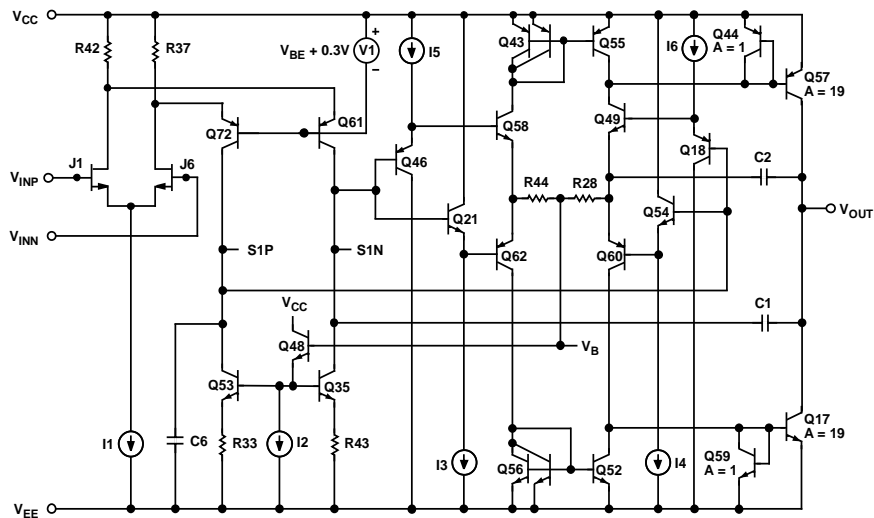

Figure 36. Simplified Schematic
The HT8823 is fabricated on the Analog Devices, Inc. proprietary complementary bipolar (CB) process that enables the construction of PNP and NPN transistors with similar f_T 's in the 600 MHz to 800 MHz region. In addition, the process also features N-Channel JFETs that are used in the input stage of the HT8823. These process features allow the construction of high frequency, low distortion op amps with picoamp input currents. This design uses a differential output input stage to maximize bandwidth and headroom (see Figure 36). The smaller signal swings required on the S1P/S1N outputs reduce the effect of the nonlinear currents due to junction capacitances and improve the distortion performance. With this design, harmonic distortion of better than -91 dB @ 20 kHz into 600Ω with $V_{OUT} = 4$ V p-p on a single 5 V supply is achieved. The complementary common emitter design of the output stage provides excellent load drive without the need for emitter followers, thereby improving the output range of the device considerably with respect to conventional op amps. The HT8823 can drive 20 mA with the outputs within 0.6 V of the supply rails. The HT8823 also offers outstanding precision for a high speed op amp. Input offset voltages of 1 mV maximum and offset drift of $2 \mu\text{V}/^\circ\text{C}$ are achieved through the use of the Analog Devices advanced thin film trimming techniques.